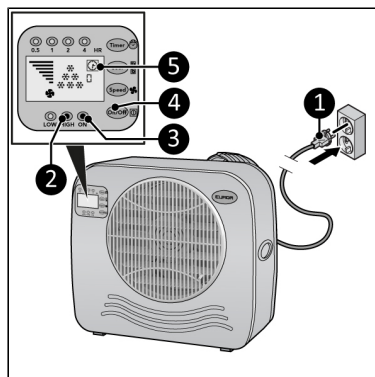

Figure 28.
2. Place the power plug (Figure 28, pos. 1) into an earthed wall socket that is easily accessible. Use an earthed wall socket with a minimum power of 460 Watt.
- Press the ON/OFF button (Figure 28, pos 4), the power indicator (Figure 28, pos. 3) and the high indicator (Figure 28, pos. 2) will light up. The display will show the time indicator and 6 cooling indicators (Figure 28, pos. 5). The device now operates at high capacity.